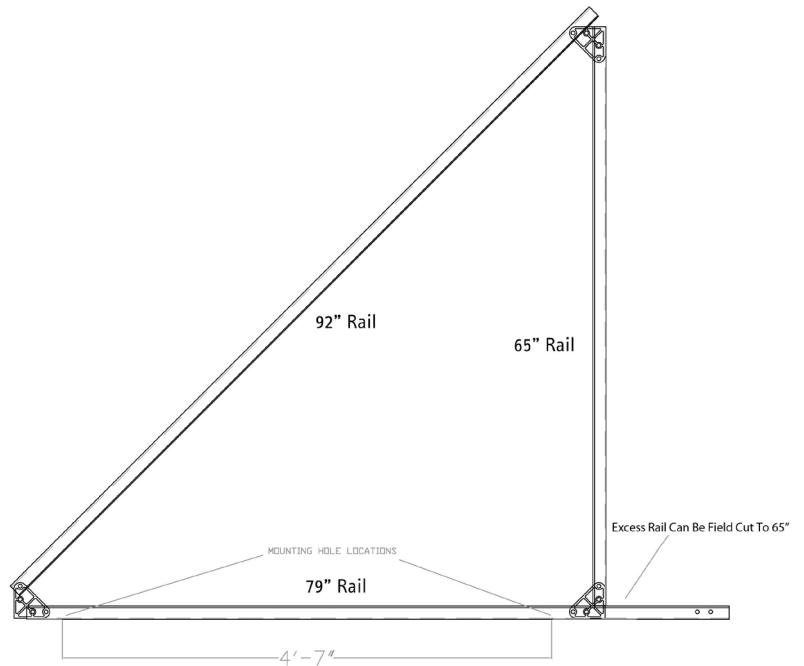

Figure 5.4.2: 30/60/45° Vertical Mounting Kit (Part # 560102) Component Listing and Assembly Example, 45° Mode Fastening To Structures
2. Assemble 2 triangular trusses using the 65" rails (M-103), the 92" rails (M-102), the 79" rails (M-105), the brackets (M-101), and the 55 mm bolts as shown in Figure 5.4.2. If desired, the 79" rails can be cut to 65".